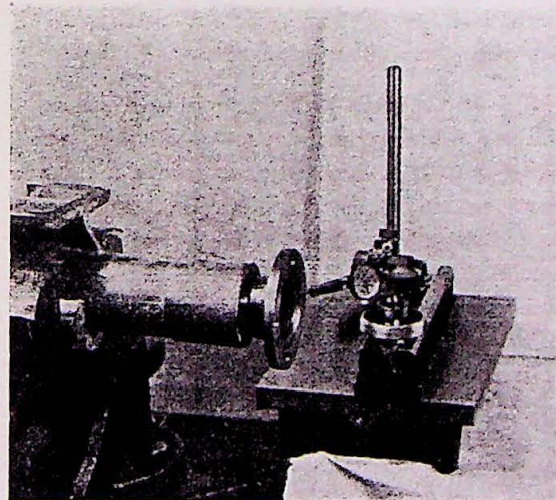

Fig. 14.
5. Install main shaft and rear housing in vice and check the companion flange out-of-roundness. Max. permissible out-of-roundness is 0.07 mm. (.003"), fig. 14. Check side warp too, max permissible is 0.09 mm. (.004").
6. Check that the sliding gear (29) for 1st speed and reverse fits easily on shaft. Check in the same way the 2nd speed sliding gear and the synchronizing device.